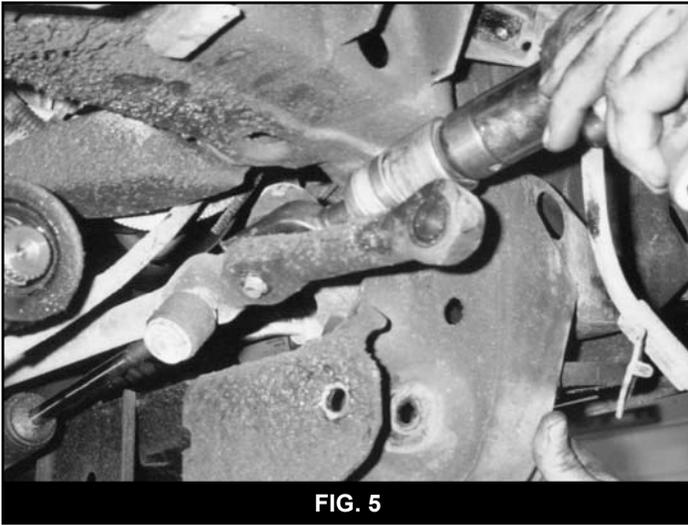

FIG. 5
16. Remove the OE steering relay rod. (Fig. 5)